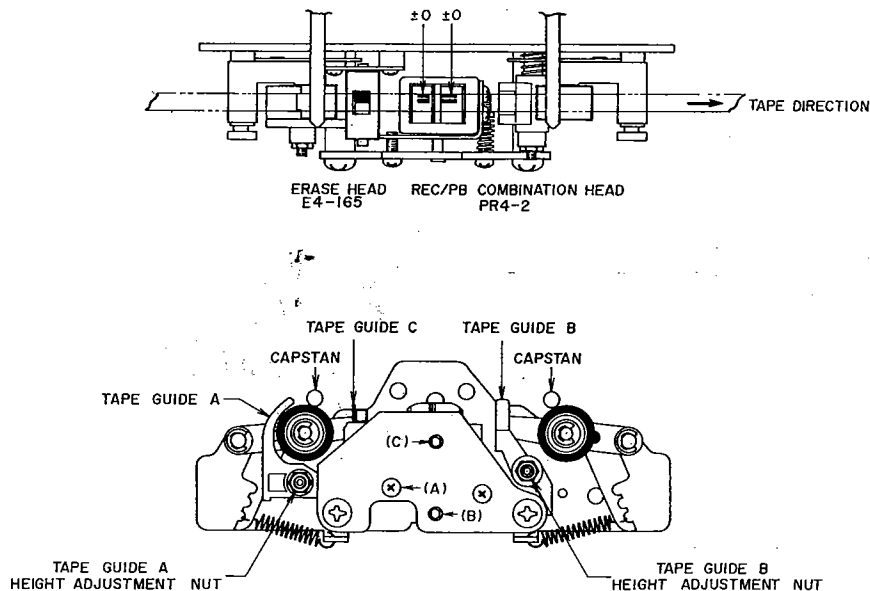
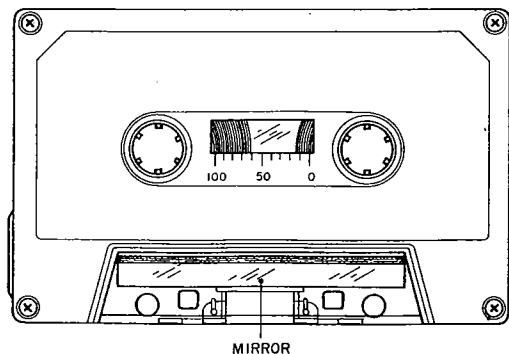

Fig. 14
Fig. 15
(Refer to Fig. 14 and Fig. 15)
- 1) When using an ordinary cassette, the tape guides and heads, etc. are not visible. As shown in Fig. 15, use a cassette tape from which part of the cassette case has been cut out and a mirror installed for easy visibility of the head area when making tape guide height adjustment.
- 2) At playback mode, using the erase head guide C shown in Fig. 14 as standard for height, adjust tape guide A and tape guide B height with tape guide height adjustment nuts so that the tape runs smoothly and does not catch on the tape guides.
(Refer to Fig. 14)
- 2) As shown in Fig. 14, adjust head height with screws (A), (B), and (C) until the upper edge of the tape is the same height as the upper edge of the left channel REC/PB Comb. head core.
### 3. AZIMUTH ALIGNMENT ADJUSTMENT OF RECORDING/PLAYBACK COMBINATION HEAD (Refer to Fig. 14)
- 1) Playback a 10 kHz pre-recorded cassette azimuth alignment test tape and adjust screw (A) shown in Fig. 14 to obtain maximum output on both channels.
- 4) Set Monitor Switch to "TAPE" position and adjust screw (A) shown in Fig. 14 to obtain maximum output on both left and right channels.
4. When a mirror installed cassette test tape as shown in Fig. 15 is required, it can be ordered from AKAI Electric Co.